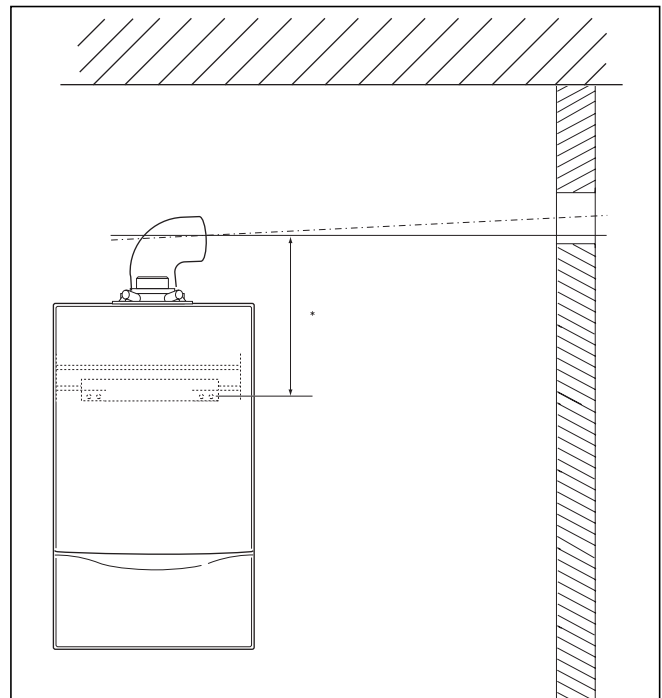

Fig. 3.8 Distance between hanging bracket and wall breakthrough
- The position of the flue exit hole should allow the flue to be installed with an upwards slope towards the terminal of approximately $3^\circ \pm 1^\circ$, equivalent to 50 mm \pm 20 mm rise per metre of flue length. Calculate the required rise according to the flue length and mark the position of the flue exit hole (fig 3.8).